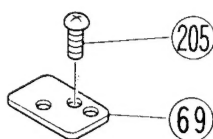
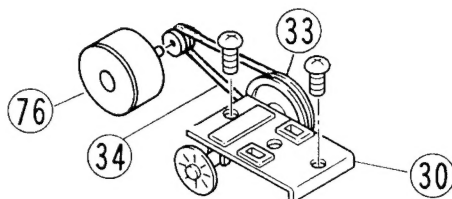

Figure 6
Figure 7
1. After removing the case top, remove Position PWB Assy (69) referring to Fig. 6.
2. Remove the Belt (34) between Servo-controlled Motor (76) and Pulley (33).
3. Remove the Sustainer K (30) referring to Fig. 7.
1. キャビネットをはずした後にポジション PWB assy (69) を取りはずす。(図6)
3. 軸受(30)を取りはずす。(図7)